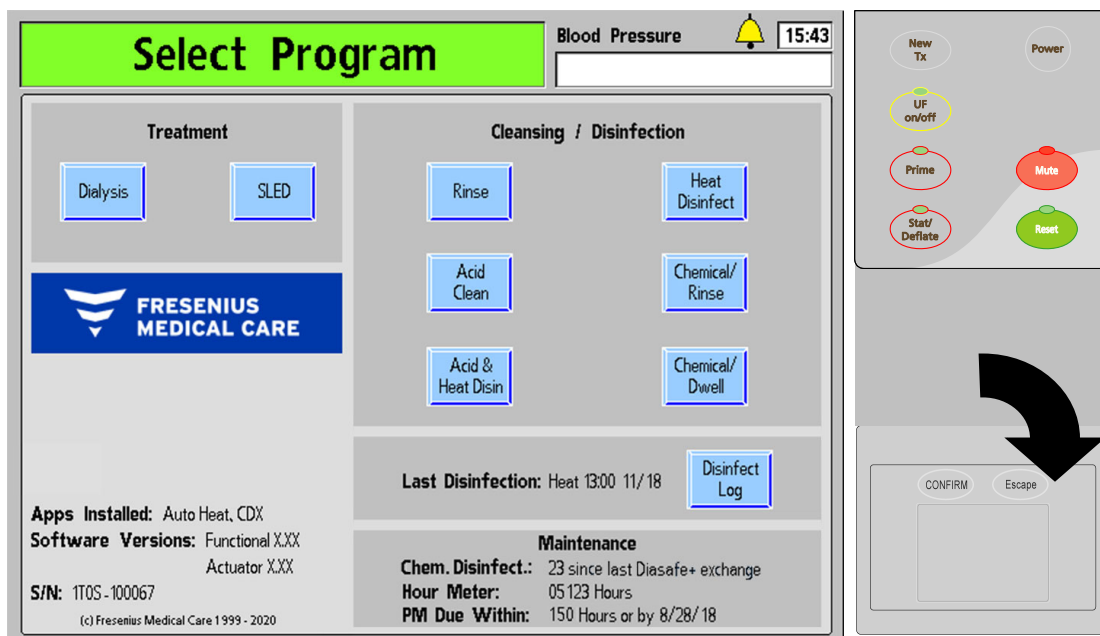

Figure 22 – The Select Program Screen (functional software version 2.81 or later) and Touchpad
Note: The “Select Program” screen displays any additional software applications (Apps) that are installed on the 2008T hemodialysis machine (see Figure 22 for an example).
1. Press the **POWER** key on the control panel. The “Select Program” screen (see Figure 22) will appear on the monitor after approximately one minute.